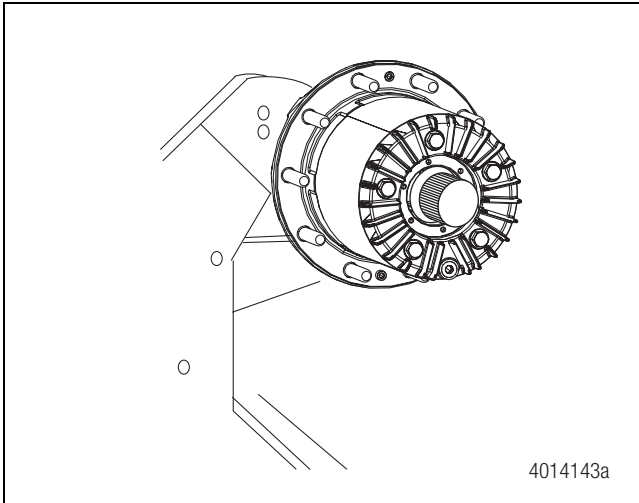

Figure 4.7
- Pull to remove the axle shaft from the housing. Figure 4.7.